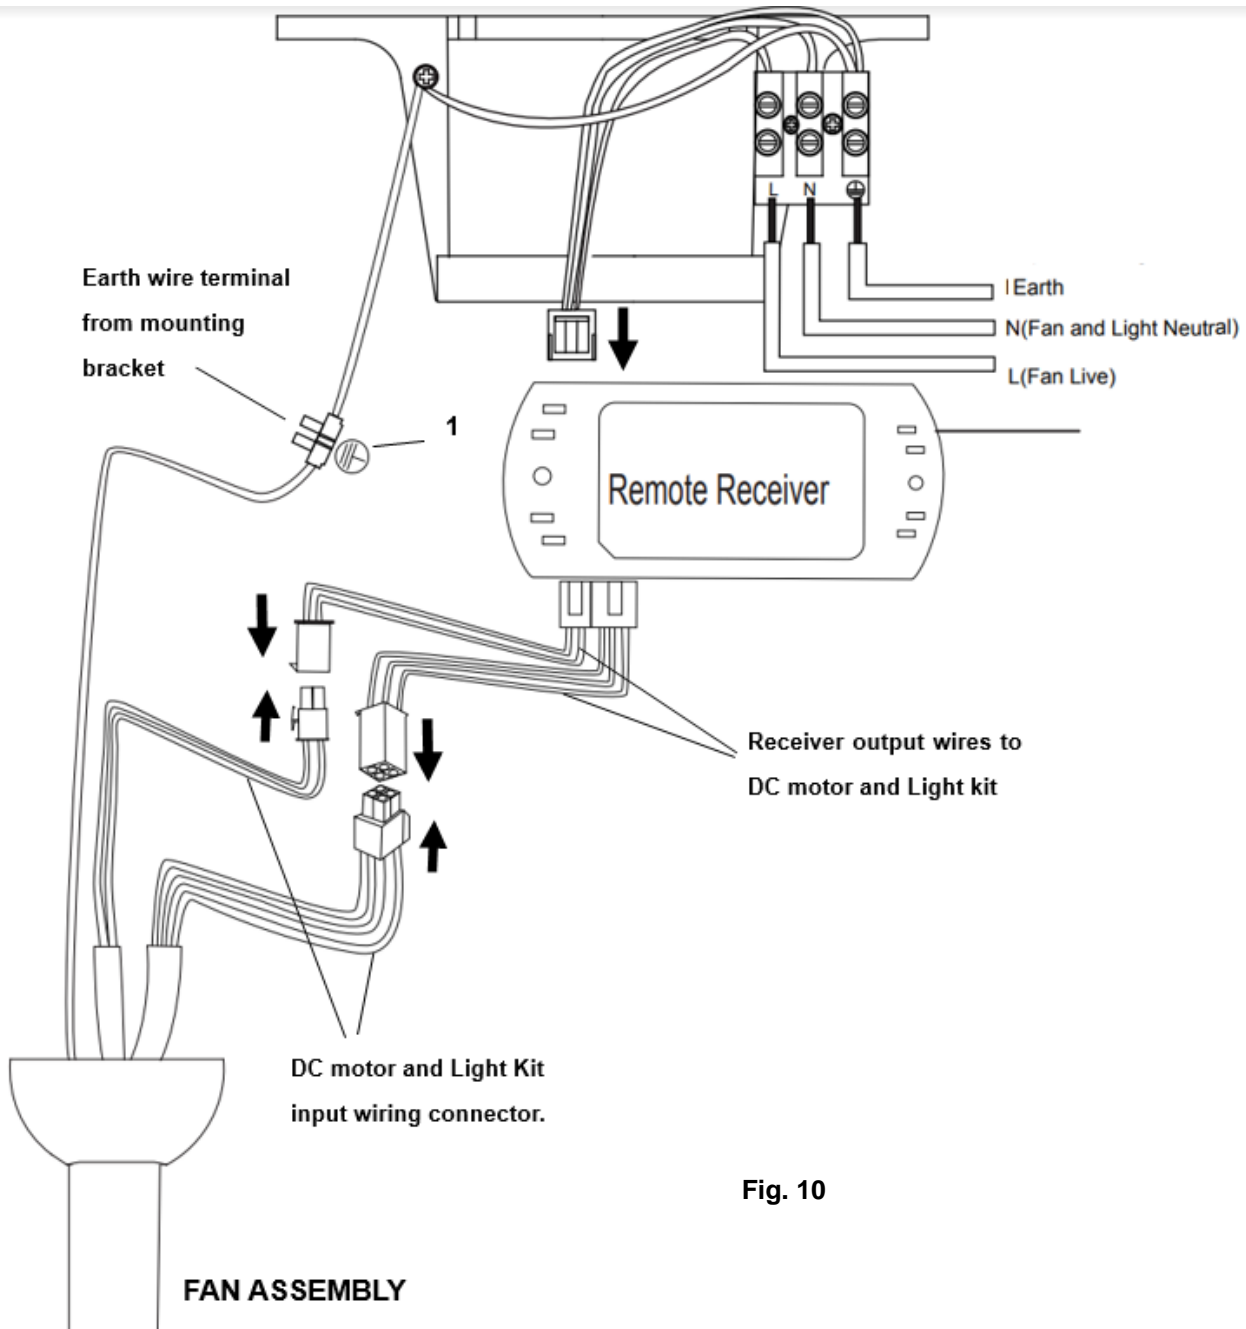

Fig. 10
**ELECTRICAL WIRING DIAGRAM THE FAN****PREPARE AND COMPLETE THE ELECTRICAL WIRING --- WIRING DIAGRAM (FIG. 10)**
**NOTE:** Ensure the motor earth wire is connected to the single earthing terminal block “1” in the diagram below (Fig. 10).
**From mains supply to mounting bracket terminal block: (Fig. 10)**
**From mounting bracket to receiver and motor: (Fig. 10)**